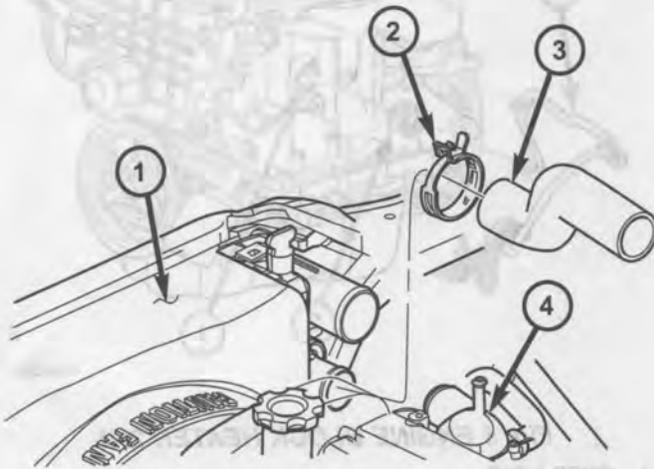

Fig. 3 UPPER RADIATOR HOSE
(1) Drain cooling system (Refer to 7 - COOLING/ENGINE/COOLANT - STANDARD PROCEDURE).
(2) Disconnect upper radiator hose from thermostat housing (Fig. 3).
(3) Disconnect upper radiator hose from radiator and remove from vehicle (Fig. 3).
(1) Install upper radiator hose on radiator and thermostat housing (Fig. 3).
(2) Reposition hose clamps in proper position.
(3) Refill cooling system to proper level (Refer to 7 - COOLING/ENGINE/COOLANT - STANDARD PROCEDURE).